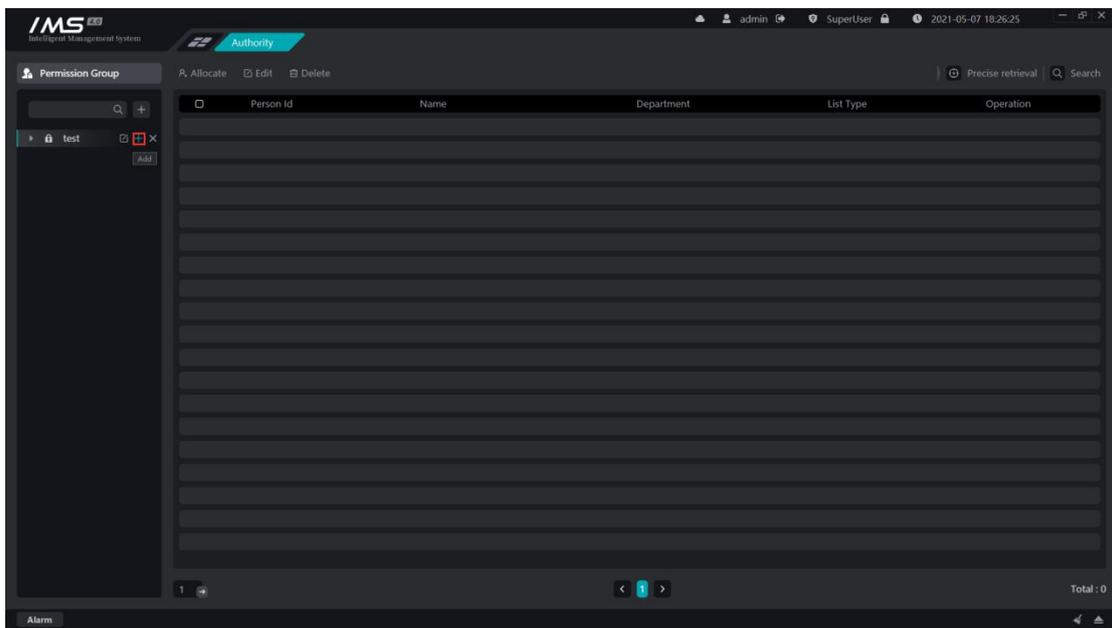

Figure 4-2
- 2 click [+], as shown in figure 4-2.